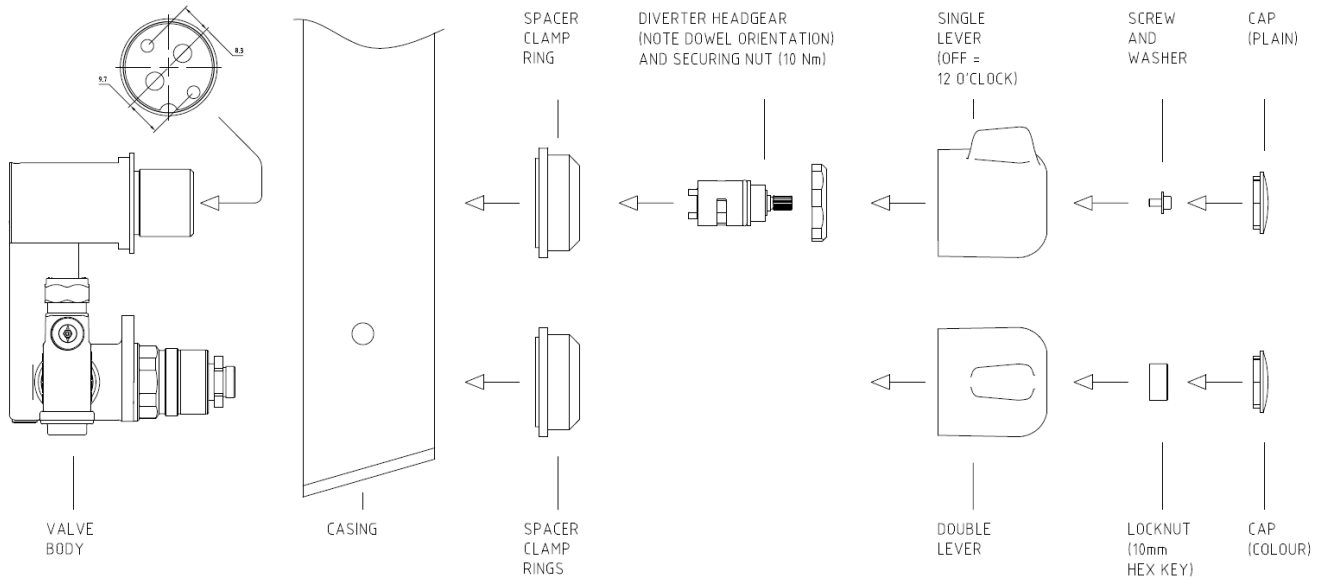

Fig. 9
- 3.8.2 If either Check Valve is passing, then the inlet elbow (complete with Check Valve and strainer basket) should be replaced. It is not possible to satisfactorily remove the Check Valve itself from the inlet elbow and this should not be attempted. The shower valve body must be removed from the pre-plumbed enclosure to remove the inlet elbows. Pay attention to the section below on “removal of valve from panel”, and Figure.9.